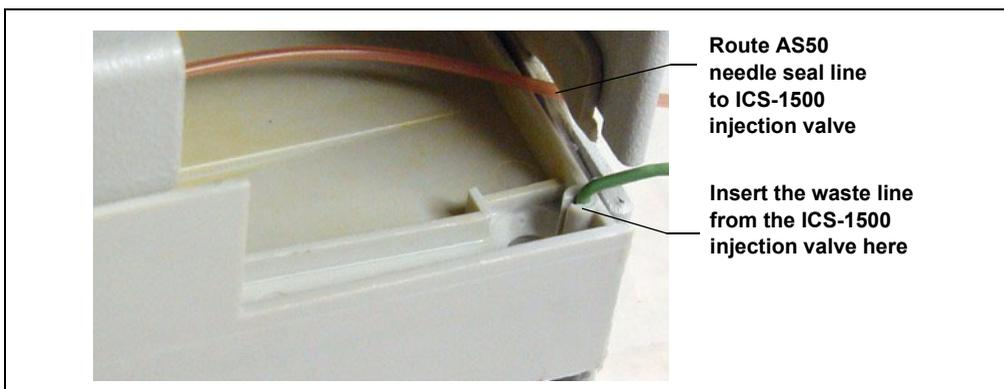

Figure B-39. AS50 Drip Tray
3. The needle seal line that extends from the inject port in the autosampler is coiled inside the AS50 door, on the right side. Route this line through the AS50 right side slot (see Figure B-39) and the ICS-1500 left side slot to the ICS-1500 injection valve.
6. Push the end of the green **AS50 TRAY** line into the small round opening on the right side of the AS50 tray (see Figure B-39).